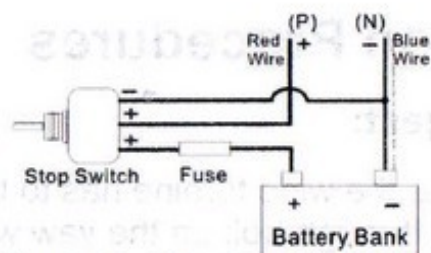

Figure 2: Stop Switch Wiring
- 11) Run all wires from the turbine to the regulator. Attach your positive (Red) wire to a fuse. Refer to fusing Section or figure 2.
- When performing periodic inspections, or at anytime when you must approach the path of the blades, disconnect the power leads from the battery and tie the wind turbine output leads together to **stop (slow down)** the blades from rotating. The turbine can also be shut down through the use of a stop switch. Please refer to Figure 2 on how to install a stop switch in your system.